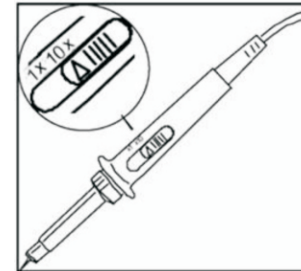

Figure 1-5 Setting the attenuation switch of the probe
- ① Connect the probe of the digital storage oscilloscope to the CH1 input terminal, and set the attenuation switch of the probe to 10X (Figure 1-5).